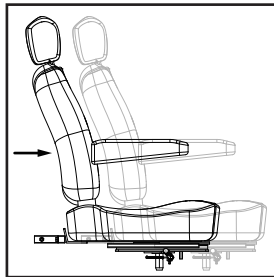

Figure 11
- Push the front lever upwards to move the seat forward or backward (see figure 11).